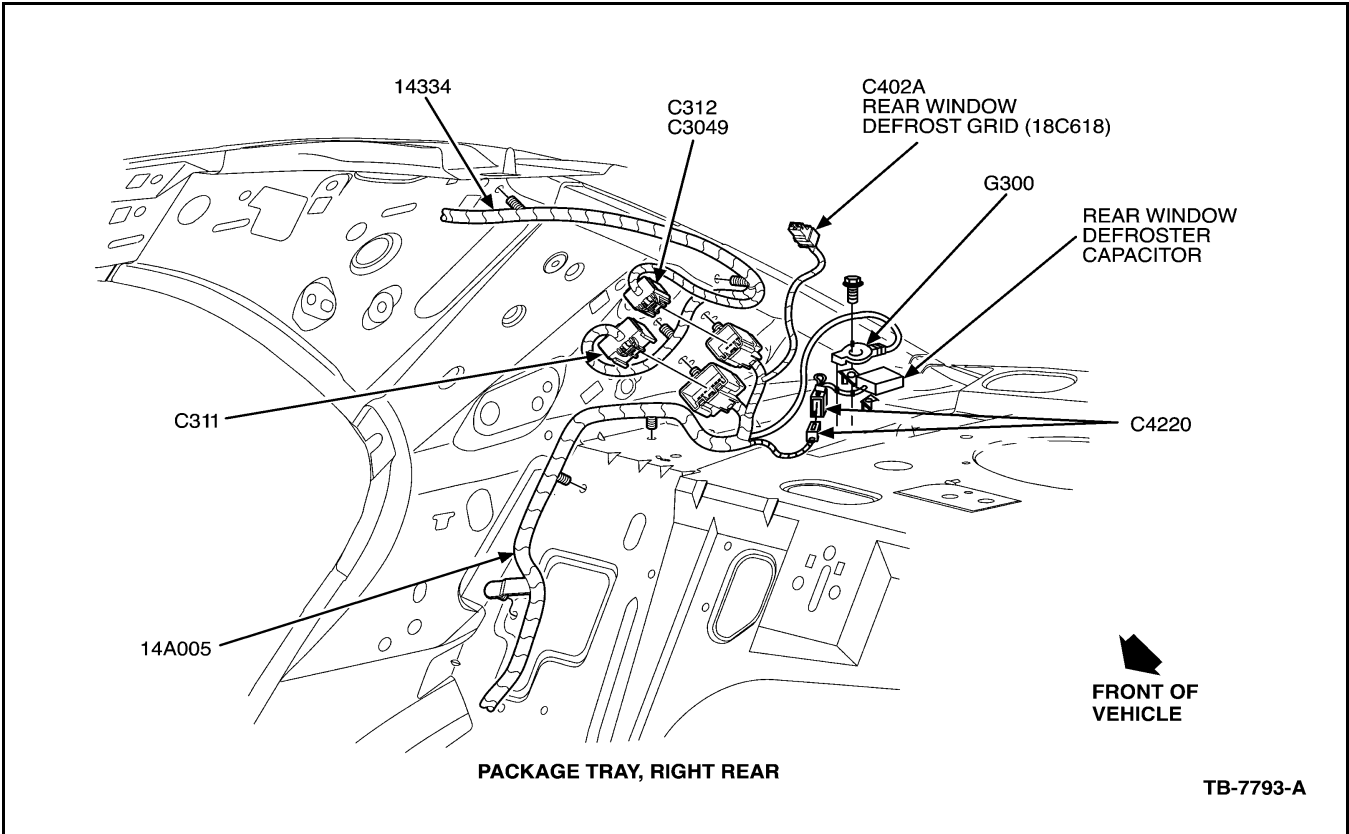

Figure 1 - Article 04-1-7
1. Remove the passenger (right) side quarter trim panel to gain access to the 14334 wire harness (Figure 1). Refer to Workshop Manual Section 501-01.
2. Locate C312 for vehicles WITHOUT Side Air Curtains or C3049 for vehicles WITH Side Air Curtains (Figure 1).
1. Remove the passenger (right) side quarter trim panel to gain access to the 14334 wire harness (Figure 1). Refer to Workshop Manual, Section 501-01.
2. Remove the 14334 wire harness pushpin fastener (closest to headliner) from the sheet metal (Figure 1).
8. Install the 14334 wire harness pushpin fastener (closest to the headliner) into the sheet metal (Figure 1).